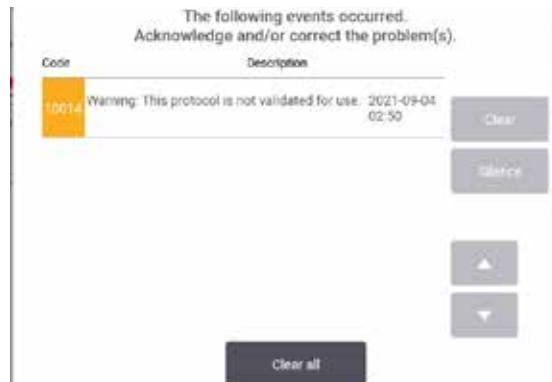

Fig. 64
12. The window appears warning you of any actions that are required or recommended before the protocol can be used (→ Fig. 64). One warning always listed is that the protocol is not validated for use. By default, a newly created protocol is not a valid protocol. Your laboratory will need to validate it before clinical use. Once validated, a supervisor can go to the **Edit Protocol** screen and tap the **Validate protocol** button. The protocol then becomes available to operators (provided that any other errors listed on the window have been attended to).
7. The window (→ Fig. 64) appears warning you of any actions that are required or recommended before the protocol can be used. One warning always listed is that the protocol is not validated for use. By default, a newly created protocol is not a valid protocol. Your laboratory will need to validate it before clinical use. Once validated, a supervisor can go to the **Edit protocol** screen and tap the **Validate protocol** button. The protocol then becomes available to operators (provided that any other errors listed on the window have been attended to).